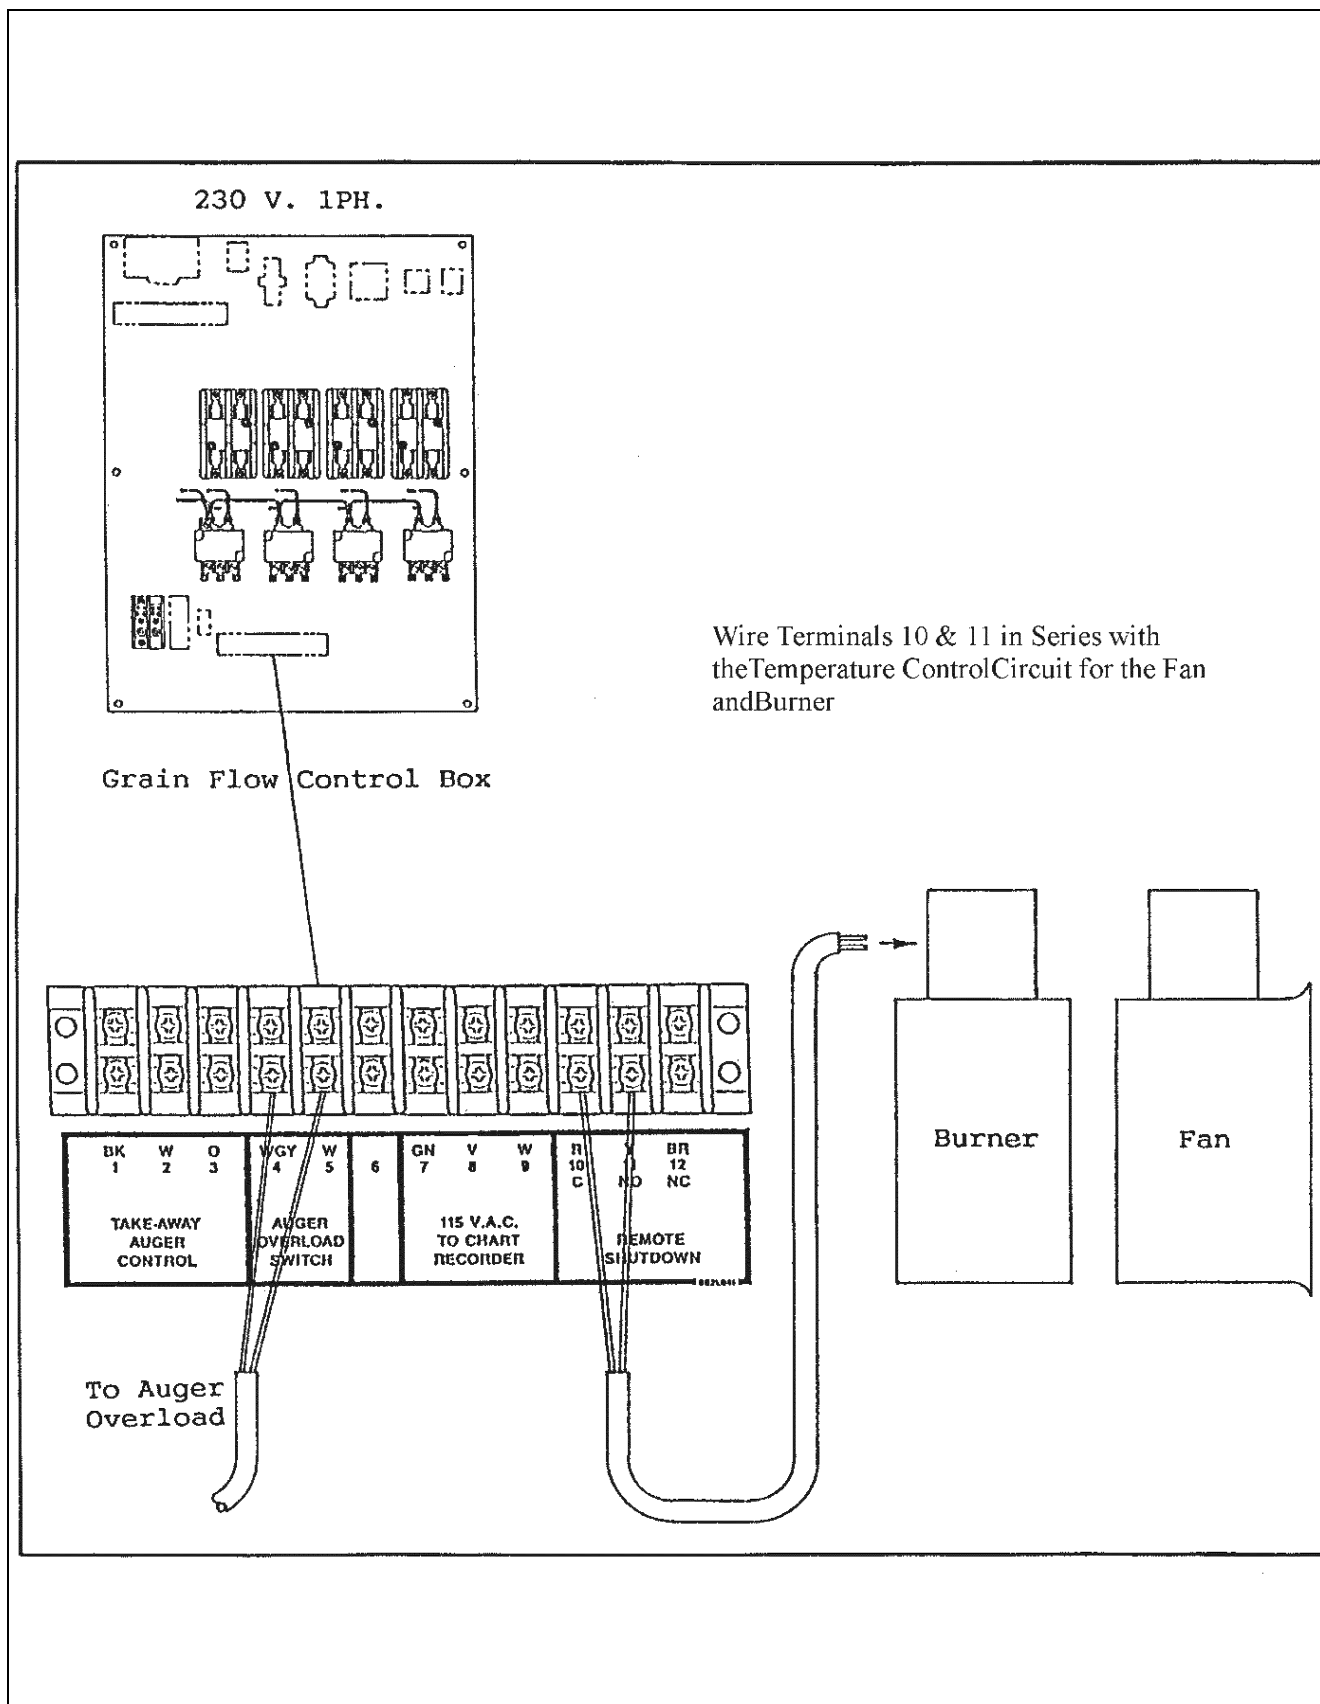

Figure 11A
1. Locate the remote shut down terminals #10 and #11 on the terminal strip at the bottom of the Grain Flow back panel. Connect these two (2) terminals in series with the fan and burner control circuit. *(See Figure 11A on Page 100.)*